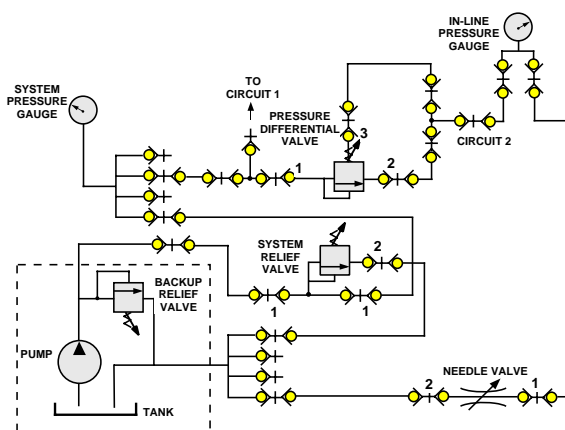

Fig. 3.4.20 Hydraulic Circuit
1. Construct the circuit in Figure 3.4.20